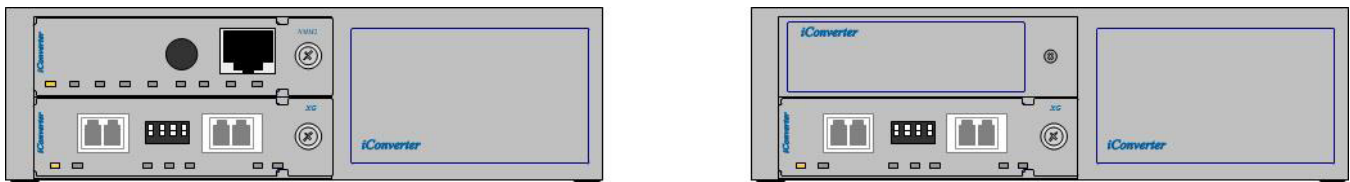

Figure 5. 2-Module Chassis with one XG+ Module
3. Only one XG+/XGT+ module can be installed in a 2-Module Chassis. The XG+/XGT+ module must be installed in the bottom slot of the chassis as shown in Figure 5. Another iConverter module can be installed in the top slot. If the slot is empty, a blank panel (8090-0) must be installed.